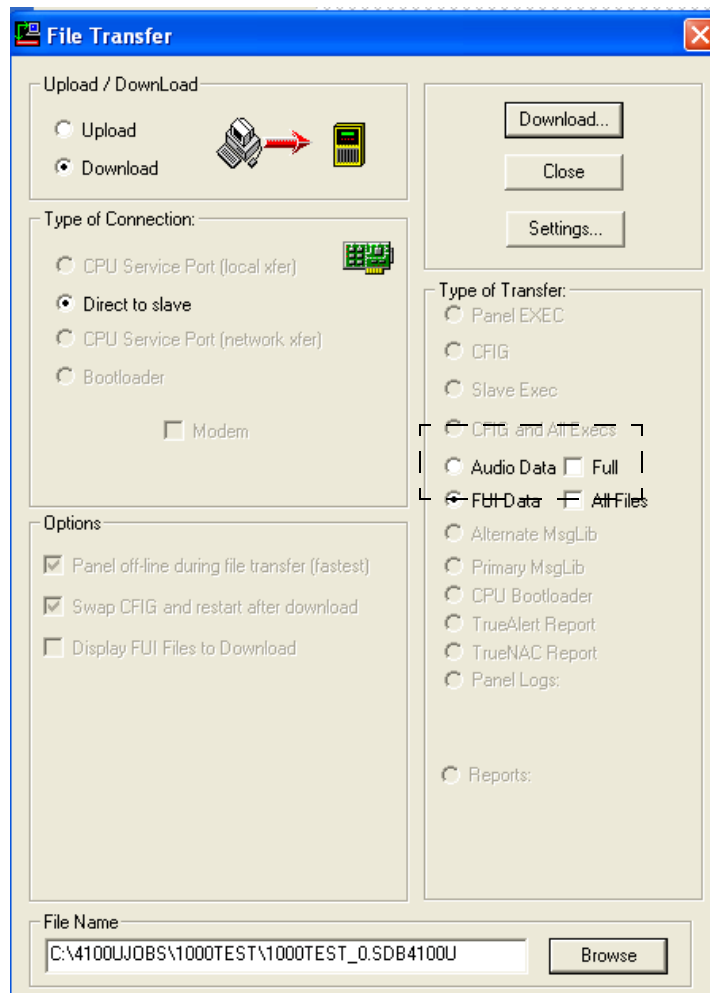

Figure 16-11. File Transfer Utility
The File Transfer Utility, shown in Figure 16-11, appears.
2. Set the radio button for Type of Connection (local, network, modem) to the appropriate setting and connect the panel to the Service PC (refer to Figure 16-11). Refer to the previous section for information on setting up a local, network, or modem connection to the panel.
2. Click on the **CPU Service Port (local xfer)** or **CPU Service Port (network xfer)** radio button (refer to Figure 16-11). Refer to the previous section in this chapter for information on setting up a connection to the panel.
2. Click on the **Bootloader** radio button (refer to Figure 16-11). Refer to “Connecting the Service PC to the Panel”, earlier in this chapter for information on setting up a direct connection to the panel.